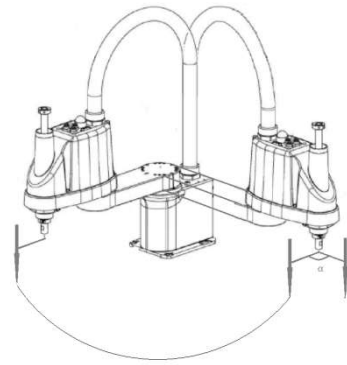

Figure 3
- ② After adding tools, draw an arc on the XY plane to start rotary cutting. The actual C-axis is based on the starting angle as the rotary cutting angle, which is maintained throughout the entire command execution, as shown in Figure 3 α is the cutting angle.